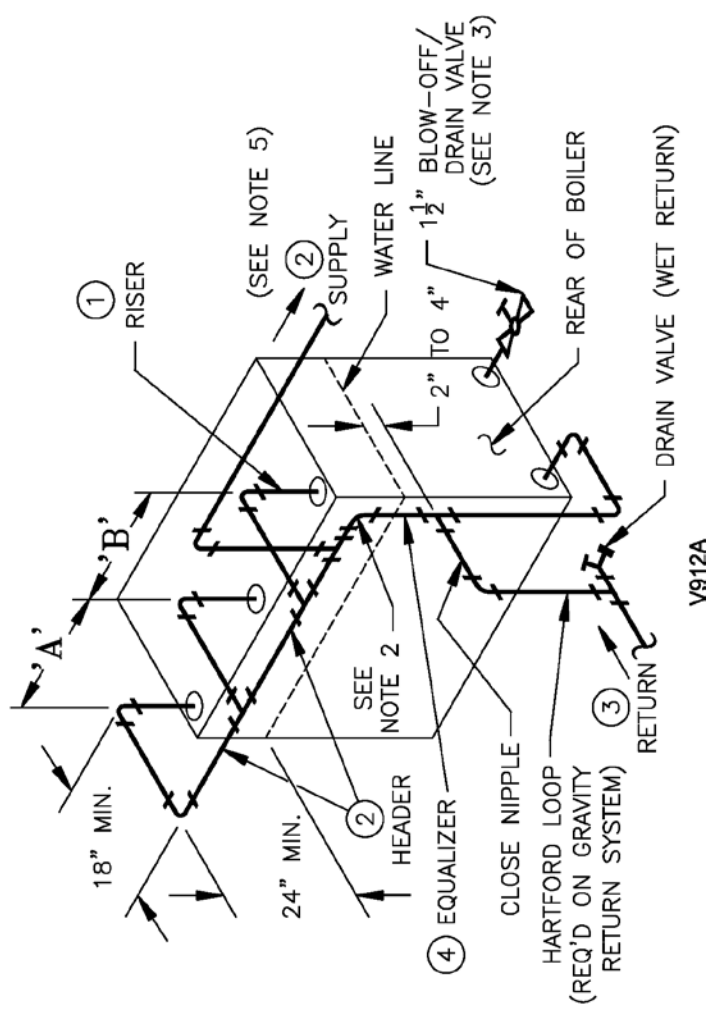
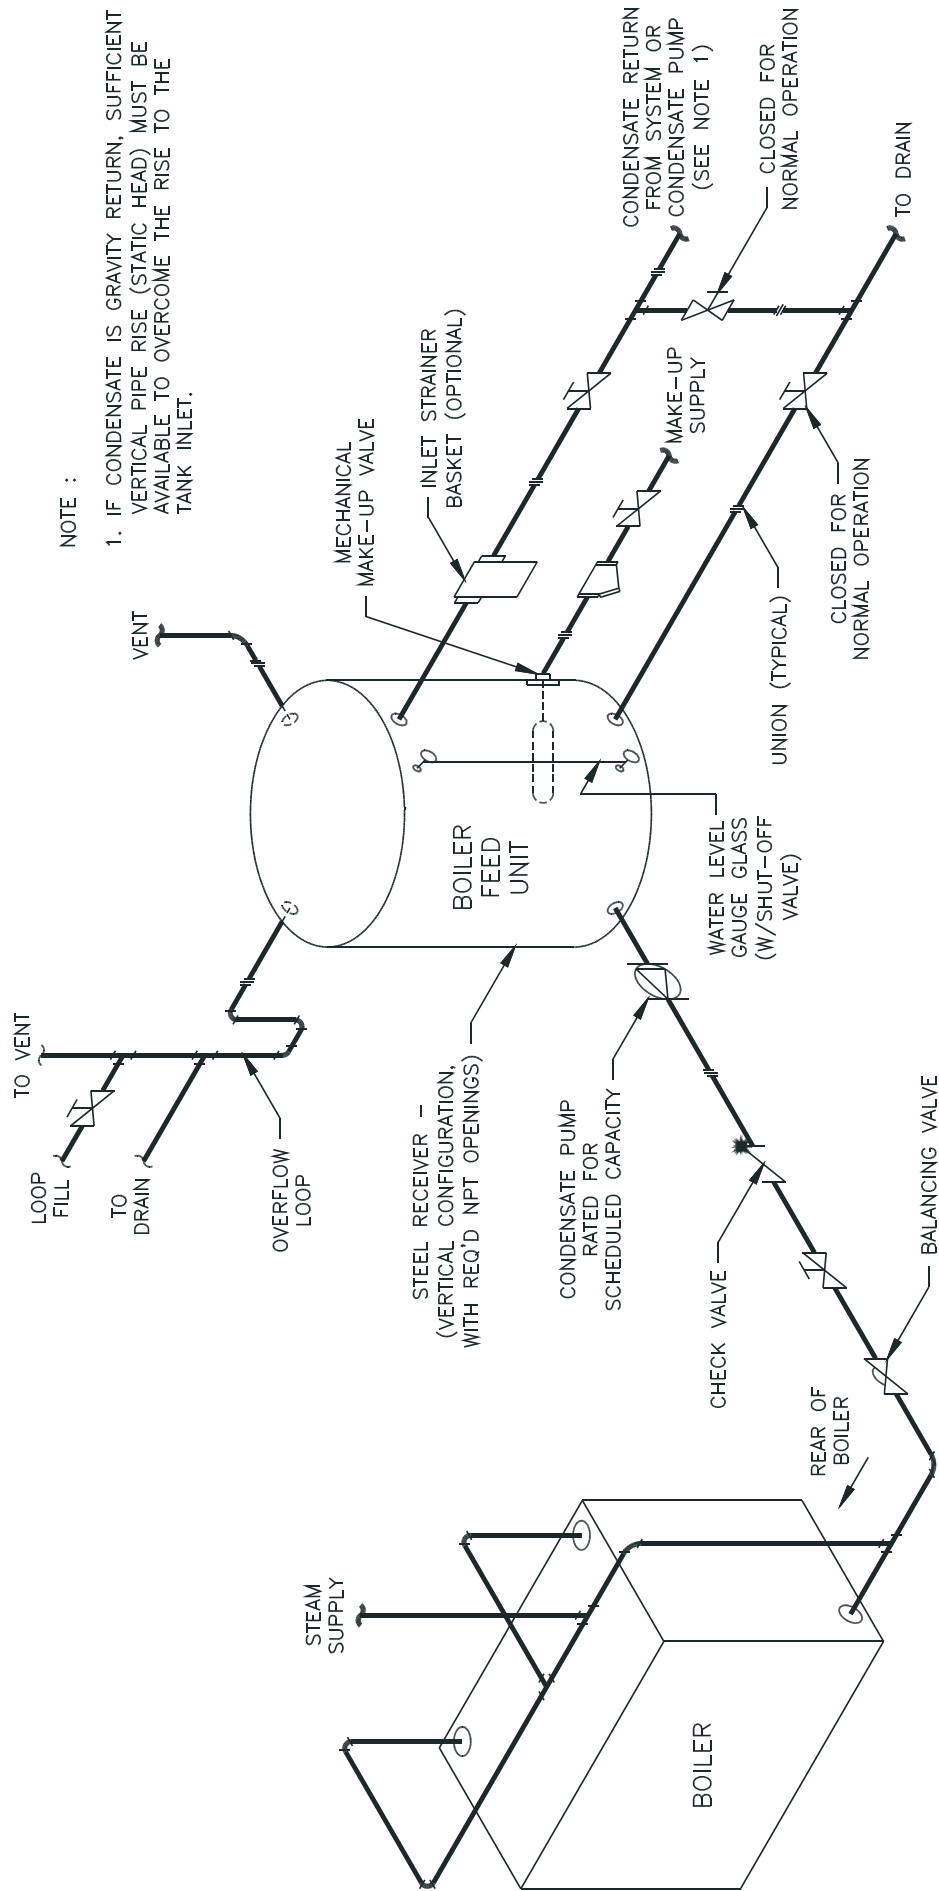

Figure 32: Minimum Piping Requirements For Gravity Return V9A Series Steam Boilers
Figure 33: Typical Steam Piping Arrangement for Boilers with Pumped Condensate Return and Boiler Feed Unit
- 2. STEAM HEATING - For piping details, see Figure 32. Figure 33 shows a typical pumped return/boiler feed unit arrangement. Figure 34 illustrates the required elevations for McDonnell and Miller 150 and 63 float low water cut-offs.